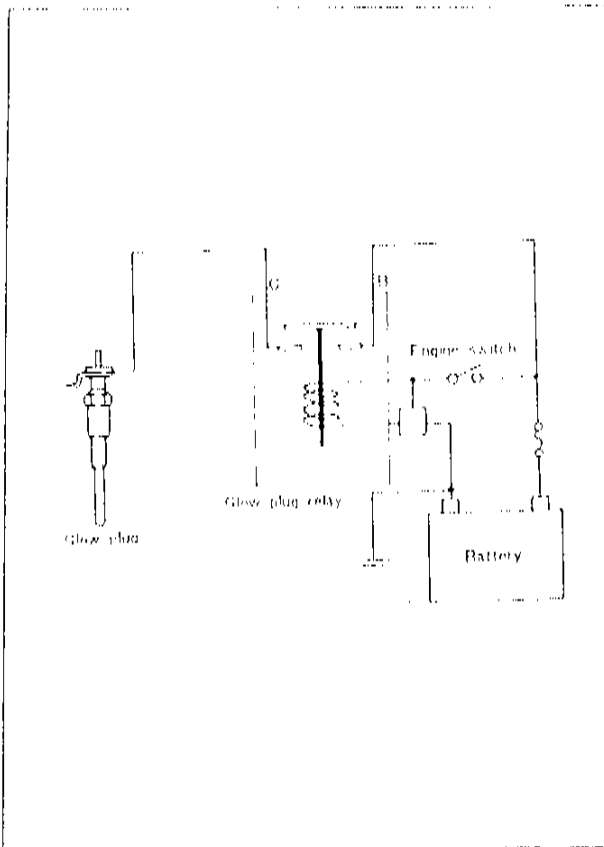

Fig. 5-33
1. Set a voltmeter to the position as shown in Fig. 5-33.